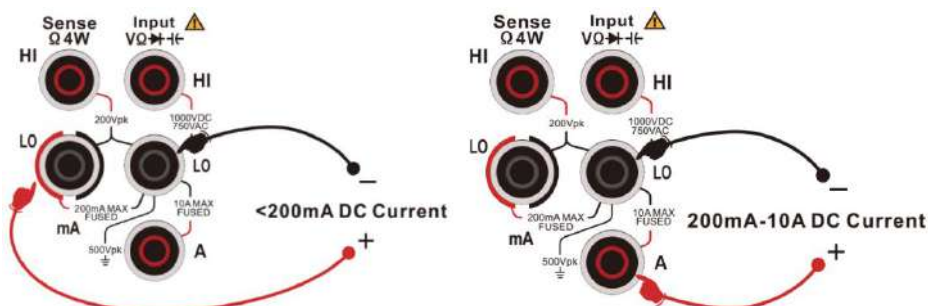

Figure 2-7 Connection of DC voltage measurement
- 2) Connect the multimeter to the circuit as Figure 2-7. When the current is <200mA, connect the red test lead to terminal mA and connect the black one to terminal Input-LO; When the current is 200mA-10A, connect the red test lead to the terminal A and connect the black one to terminal Input-LO.